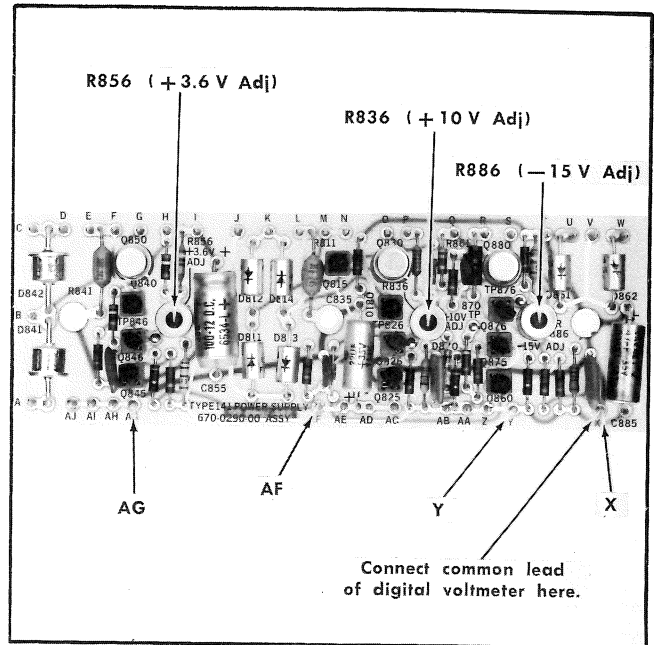

Fig. 5-2. Power supply board test point and adjustment locations.
- b. Connect the digital voltmeter leads between pins Y and X on the Type R141A Power Supply board (see Fig. 5-2).
- d. ADJUST—  $-15\text{ Volt Adj}$ , R886, (see Fig. 5-2) for  $-15\text{ volts}$ .
n. From the Type 1A5 B Input connector, connect a 1X probe to pin Y (−15 V) on the Type R141A Power Supply board (see Fig. 5-2).